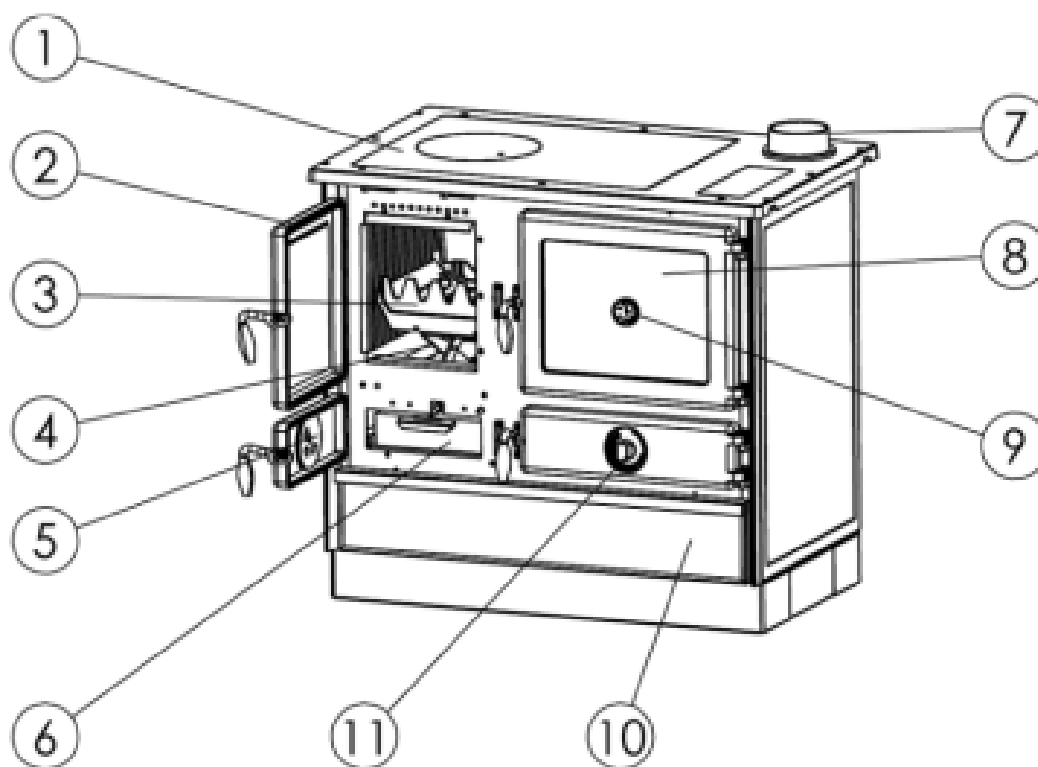

Figure 1. Integral parts of the Thermo Magnum cooker
Solid fuel cooker for central heating Thermo Mag is made and tested according to the European standard EN 12815. Figure 1 shows appearance of cooker with integral parts important for handling and use. Table 1 gives its technical characteristics.
Solid fuel cooker for central heating Thermo Magnum possesses boiler of 11l capacity which is made of boiler metal sheets of standardized dimensions. Such manufacture improves boiler life span. Water adapters are 1". Fire door (fig. 1, pos. 2) is cast and has thermal-resistant transparent glass. Ashtray door (fig., 1, pos. 5) is cast and has auxiliary air flow regulator.